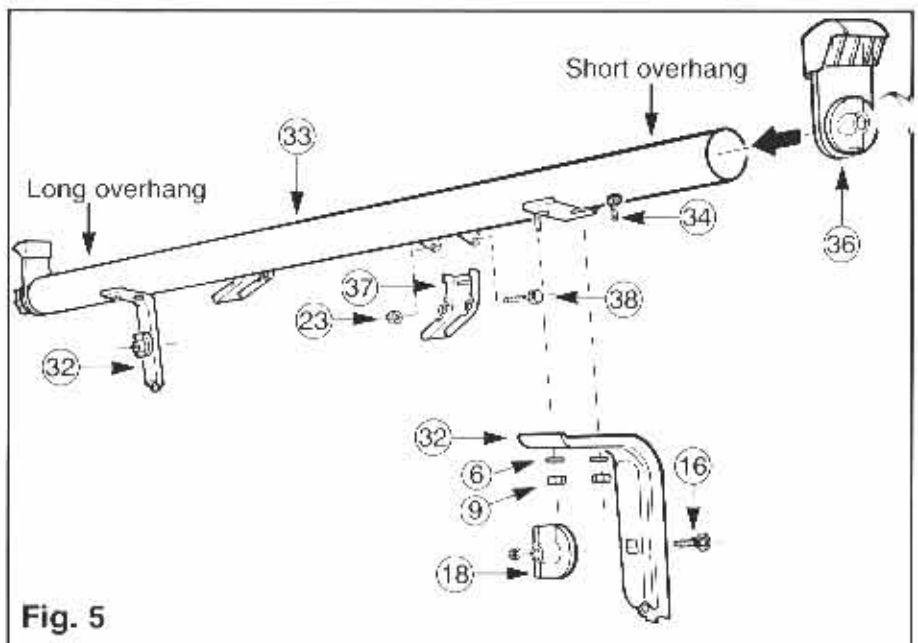

Fig. 5
Loosely bolt the Support Brackets (32) to the brackets on the Inner Track (33) using the short Coach Bolts (34), Washers (6) and Nyloc Nuts (9), as shown in Fig. 5. **Do not yet tighten.** Note the orientation of the brackets in regard to the long and short overhang of the inner track.
Loosely fasten the longer Coach Bolts (16) and Round Knobs (18) onto the support brackets as shown in Fig. 5.
Fasten the two Locking Latches (37) onto the latch brackets using the Hex Bolts (38) and Nyloc Nuts (23). Ensure the rectangular windows in the latches are oriented as shown in Fig. 5. Tighten the bolts until the latches pivot firmly.